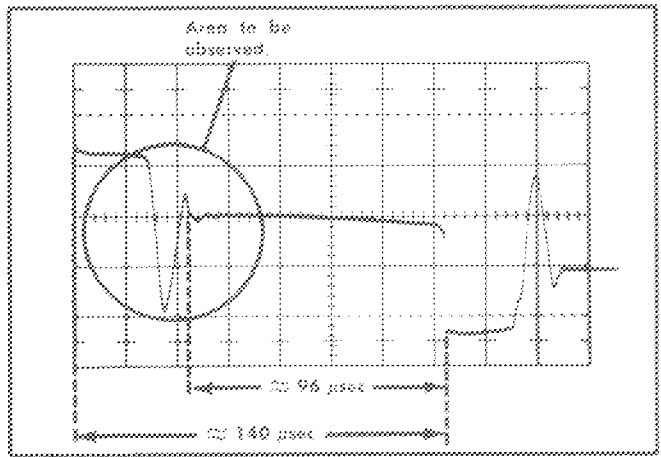

Fig. 6-5. Waveform obtained when OSC FREQ control is correctly adjusted. Oscilloscope controls for waveform were: Time/CM 20  $\mu$ Sec, Volts/CM 20.
- e. Adjust OSC FREQ control to obtain a waveform similar to the waveform show in Fig. 6-5.